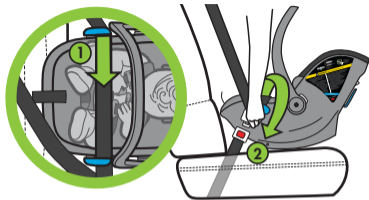

Figure 67
- Route lap portion of the vehicle belt through both blue UAS/Lap Belt Guides (1) and buckle vehicle belt (2), as shown in **Figure 67**. DO NOT pull the vehicle belt all the way out during this step.